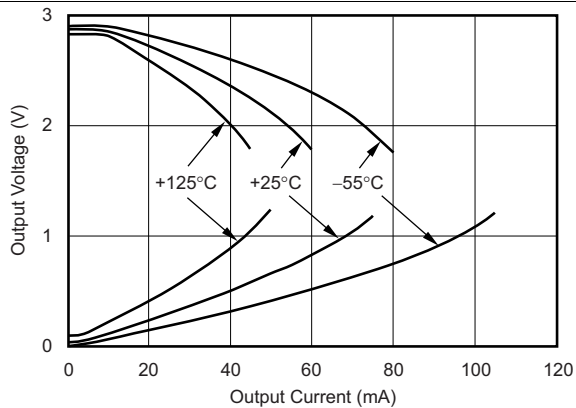
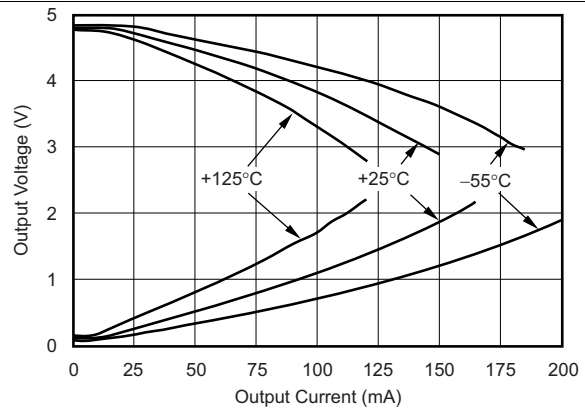
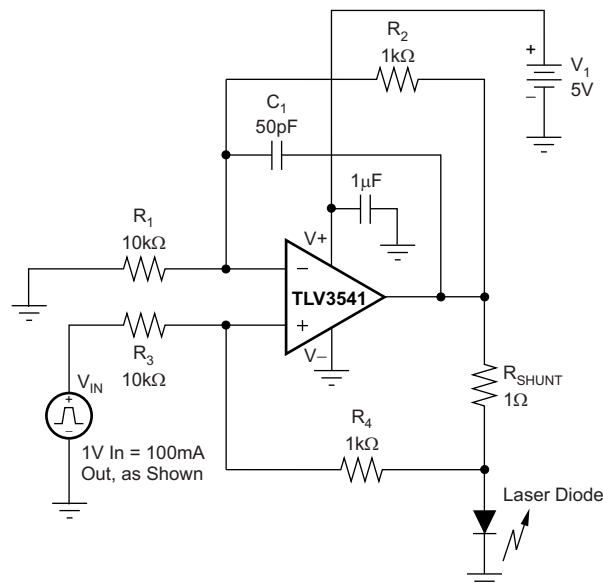
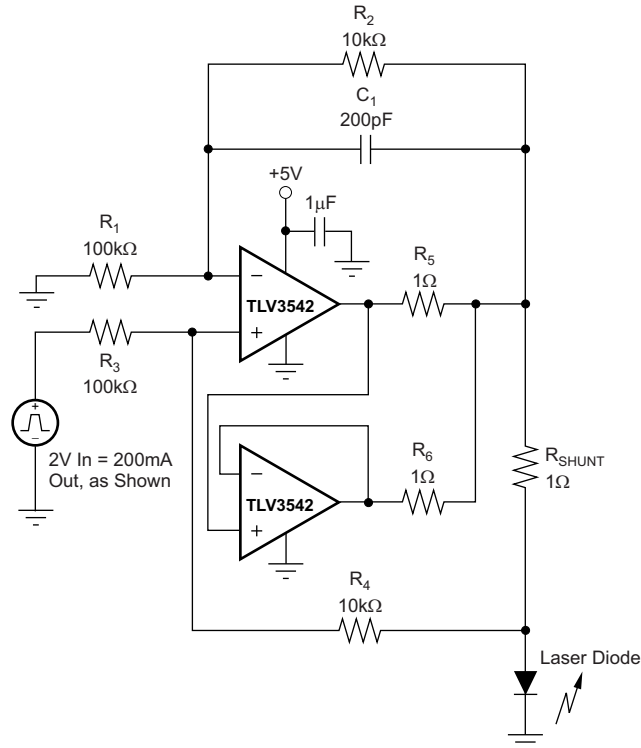

Figure 14. Output Voltage Swing vs Output Current for $V_S = 3\text{ V}$
Figure 15. Output Voltage Swing vs Output Current for $V_S = 5\text{ V}$
Figure 21. Laser Diode Driver
Figure 22. Parallel Operation
(1) See typical characteristic curves, *Output Voltage Swing vs Output Current* (Figure 14 and Figure 15).
(2) Specified by design.
(3) Operating in this temperature range will not damage the part. However, degraded performance may be observed.
A class AB output stage with common-source transistors is used to achieve rail-to-rail output. For high-impedance loads ($> 200 \Omega$), the output voltage swing is typically 100 mV from the supply rails. With 10- Ω loads, a useful output swing can be achieved while maintaining high open-loop gain. See the typical characteristic curves, Output Voltage Swing vs Output Current (Figure 14 and Figure 15).
The TLV354x output stage can supply a continuous output current of ± 100 mA and yet provide approximately 2.7 V of output swing on a 5-V supply, as shown in Figure 21. For maximum reliability, it is not recommended to run a continuous DC current in excess of ± 100 mA. Refer to the typical characteristic curves, Output Voltage Swing vs Output Current (Figure 14 and Figure 15). For supplying continuous output currents greater than ± 100 mA, the TLV354x may be operated in parallel, as shown in Figure 22.